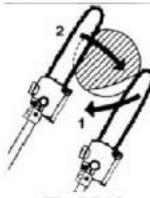

Fig.PP13
5.7.1- Relieving cut (Fig.PP13)